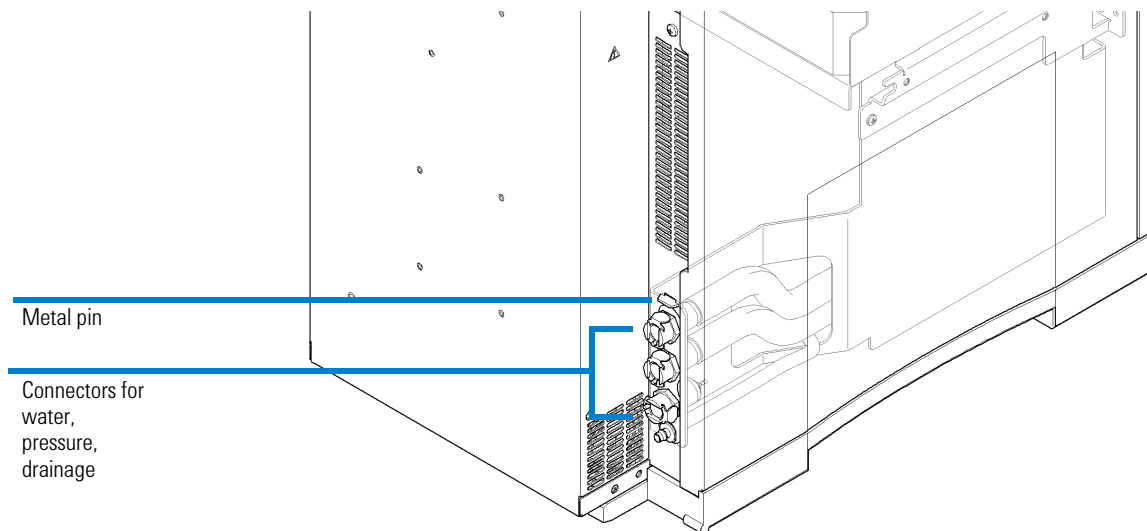
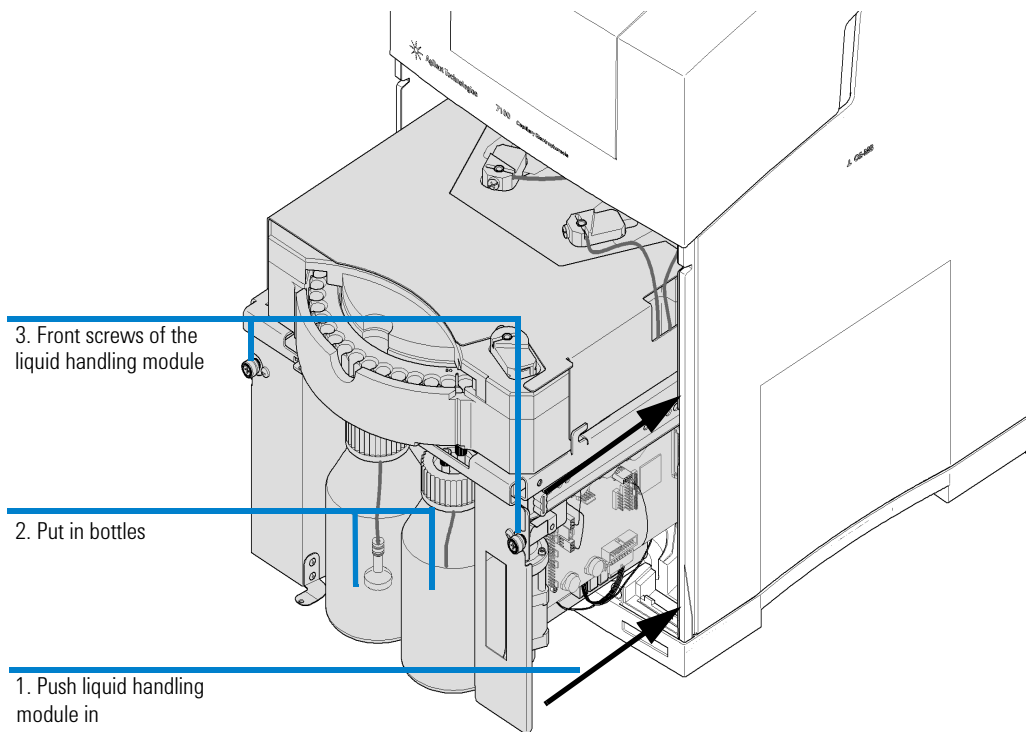

Figure 73 Rear side of liquid handling module
Figure 74 Liquid handling module
- 9 Push the liquid handling module back into the instrument as shown in Figure 74 on page 233. To release it from the front position, slightly more force is needed. Carefully move the liquid handling module completely into a position that allows fixation. Please note the metal nose from the liquid handling module which has to fit in a groove of the back metal sheet as shown in Figure 73 on page 232.